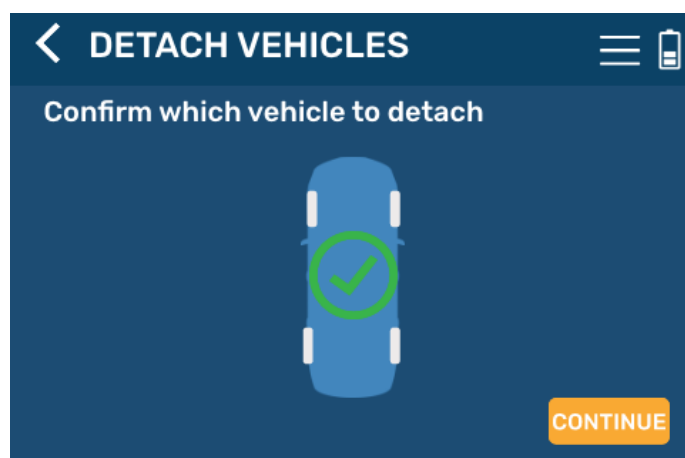

Fig.26
3. Confirm which vehicle to detach and tap CONTINUE (Fig.26).